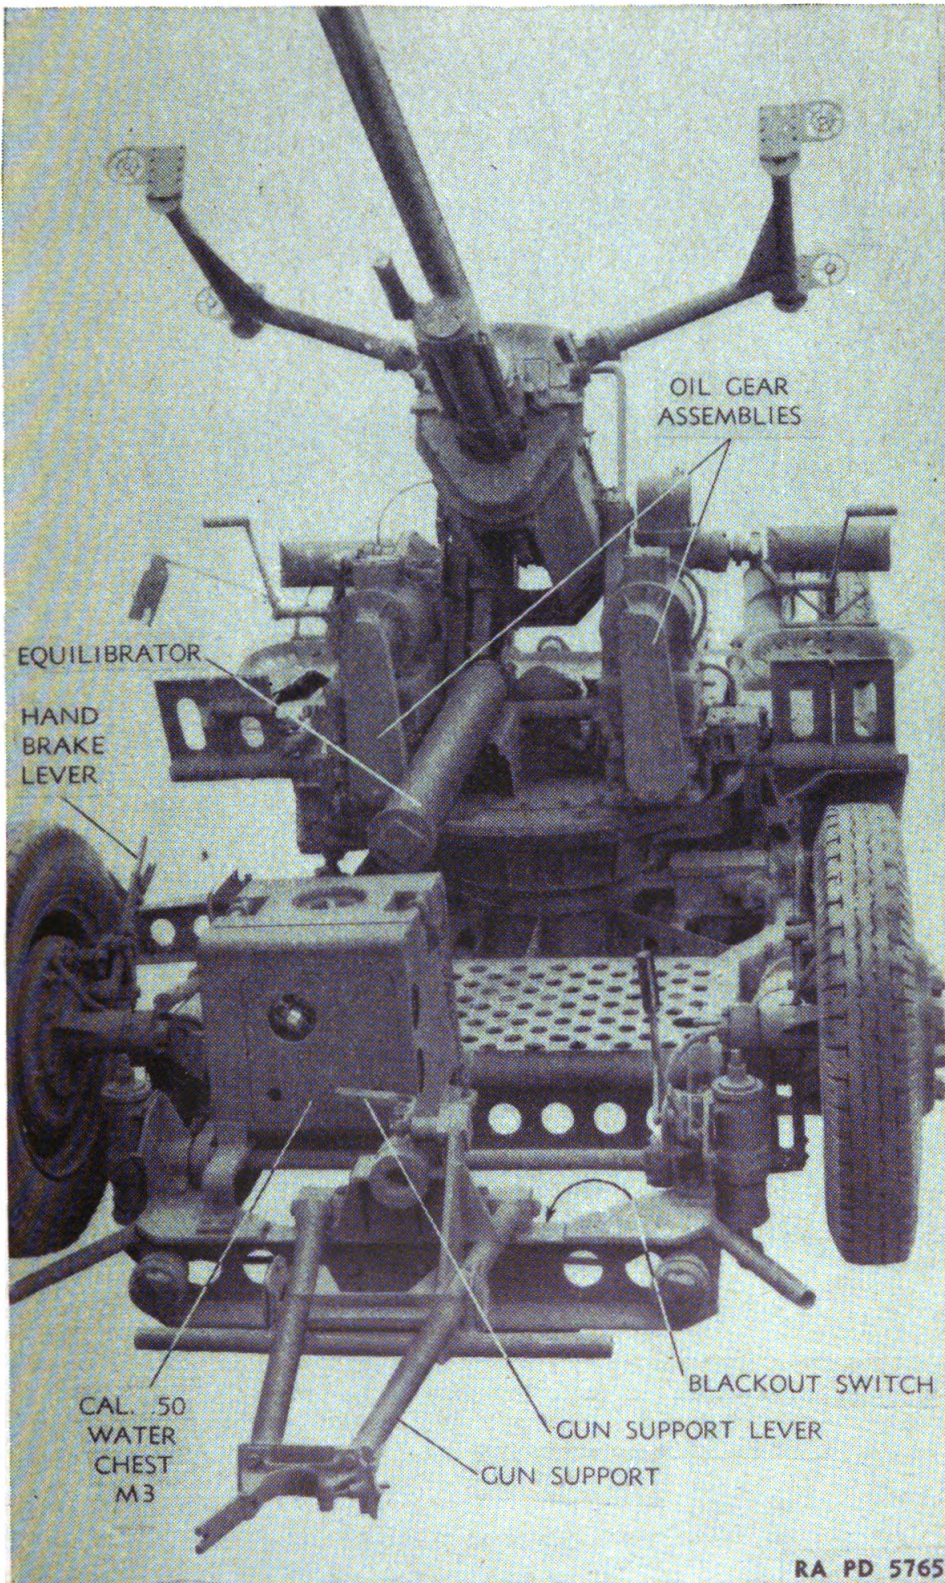

FIGURE 31.—Rear view of M3A1 carriage in firing position.
**22. Lights.**—These carriages are equipped with two rear lamps each containing a tail and a stop light. They receive current from the prime mover through the jumper cable, and are operated from the prime mover. It is expected that blackout lights will be installed on these carriages. The blackout lights will consist of two lamps replacing the two now on the carriages. One of the lamps will contain a service tail, a service stop, and a blackout tail light. The other lamp will contain a blackout tail and blackout stop light. A blackout switch which will be installed at the point indicated in figure 31 will change from one set of lights to the other. The switch is operated by rotating the cover up and then twisting the slotted shaft with a screw driver or a coin.